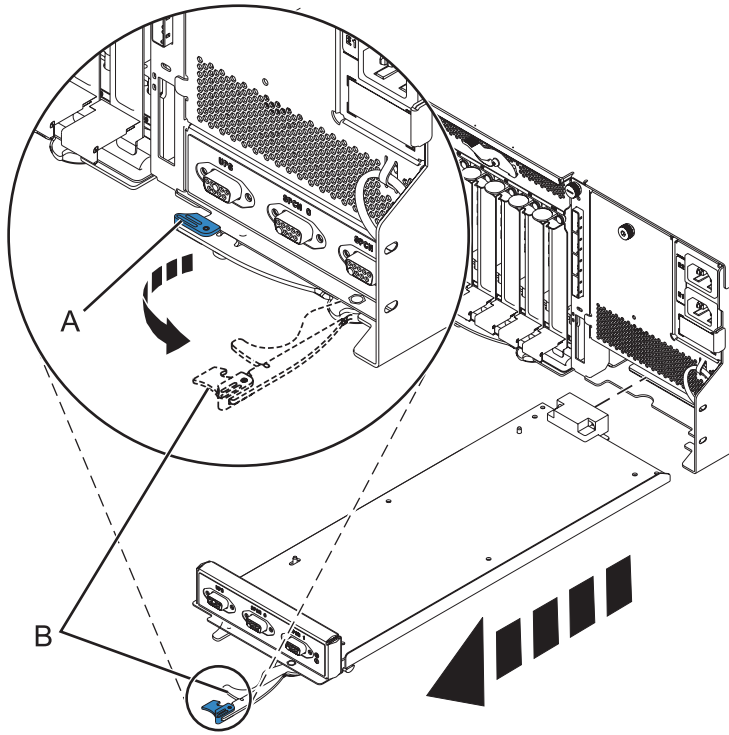

Figure 86. Remove the enclosure management controller
- b. Pinch the latch (A) to unlock the handle (B). See Figure 86 on page 115.